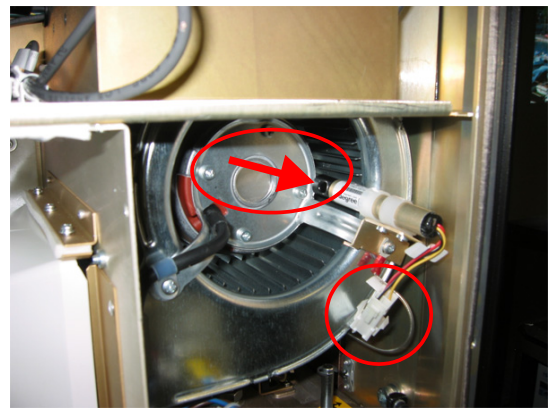

Figure 4-4 Clean Air Flow Sensor
2. Disconnect the sensor cable from fan interlink connector as show in **Figure 4-4**.
5. Remove the air flow sensor and bracket as shown in **Figure 4-4**.